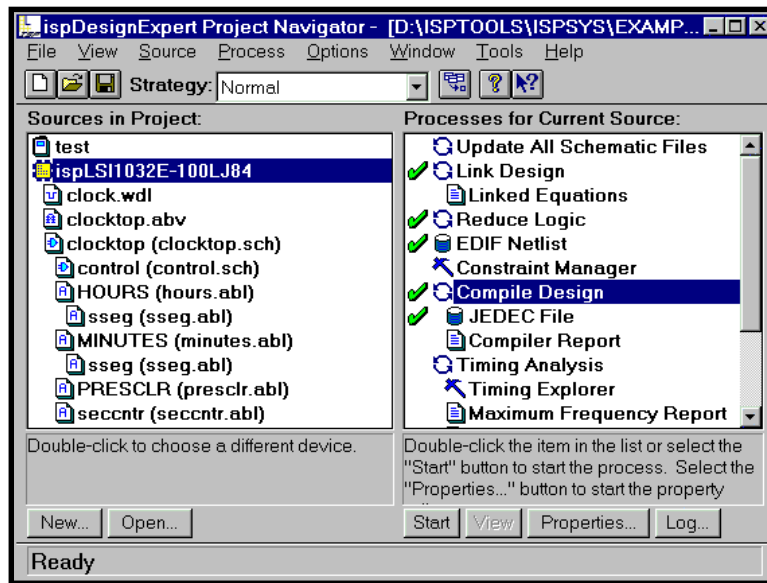

Figure 1-13. Project Navigator - Complete the Compile Design Process
4. The Project Navigator processes the design up to the specific step highlighted in the Processes window. In this case, it is Compile Design (Figure 1-13).